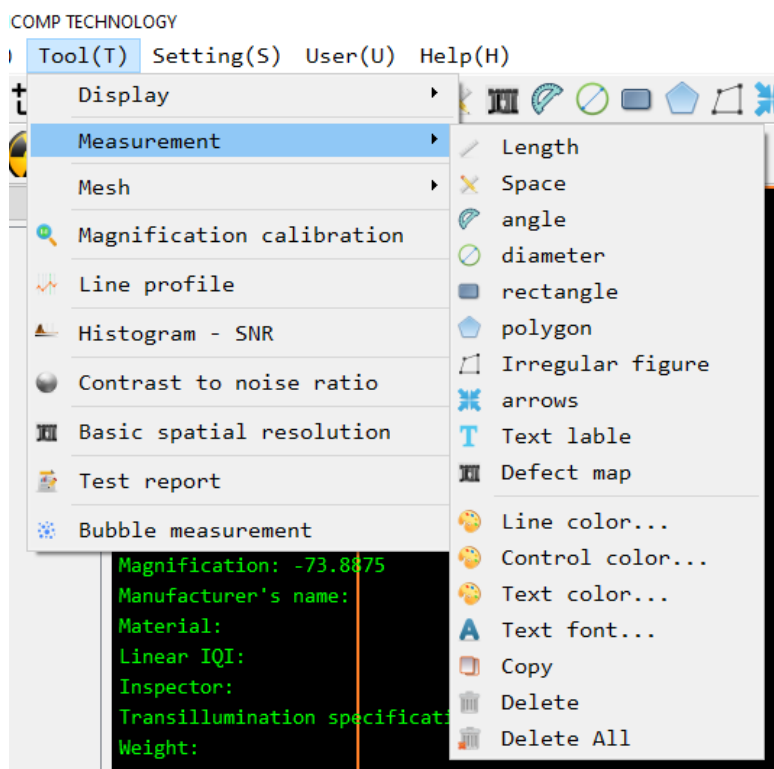

Fig. V-42 Measurement Menu and Shortcut Tool
Click the "Tool (T)" ->"Measurement" in the menu bar to choose a measurement mode or the marking mode, and enter the measurement mode automatically. (See Fig. V-42)
In the toolbar, the user can quickly use the measurement and marking mode, and with the marking of the image, the user can get more information of the image, convenient to query after archiving. From left to right, the measurement mark toolbar includes: length, spacing, angle, diameter, rectangle, polygon, arrow mark, text mark, set line color, set control point color, set text color, set text font, copy mark, delete mark and remove all marks. (Fig. V-42).
Mark controls include copying, mark deletion and mark removal, entry, as shown in Fig. V-42.